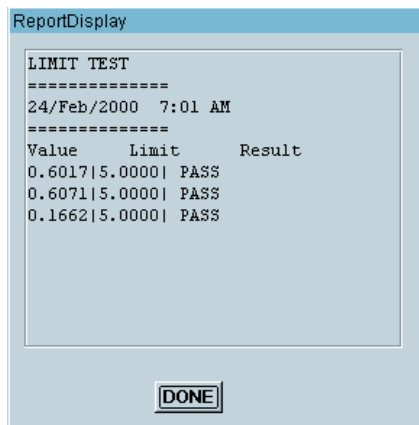

Figure 225 The ReportDisplay Panel View
Figure 225 shows the panel view of the ReportDisplay UserFunction with Show Panel on Execute selected in the Properties box. In the Properties box, the Pop-up Panel Title has also been changed to ReportDisplay. To create the panel, select the Confirm (OK) and Logging AlphaNumeric objects, and click **Edit** ⇒ **Add to Panel**. Note that the Logging AlphaNumeric display has Show Title Bar deselected. Note also that Confirm (OK) button has been renamed DONE. The Confirm (OK) button is included to keep the display on the screen until the user is done viewing it.
- 3 Run the program and the ReportDisplay panel should pop up and display the values as shown in Figure 225. Click on **DONE** to complete execution. Then save the program as **Report.vee**.